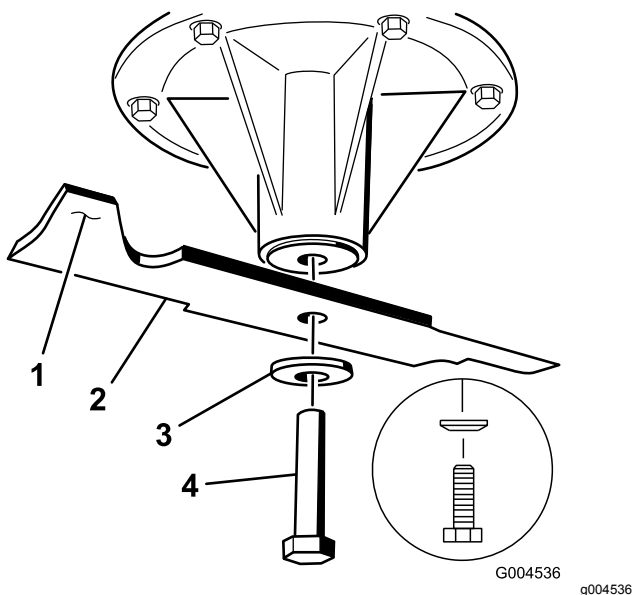

Figure 81
- Remove the blade bolt, the curved washer, and the blade from the spindle shaft (Figure 81).
- If the blade is not balanced, file some metal off the end of the sail area only (Figure 81).